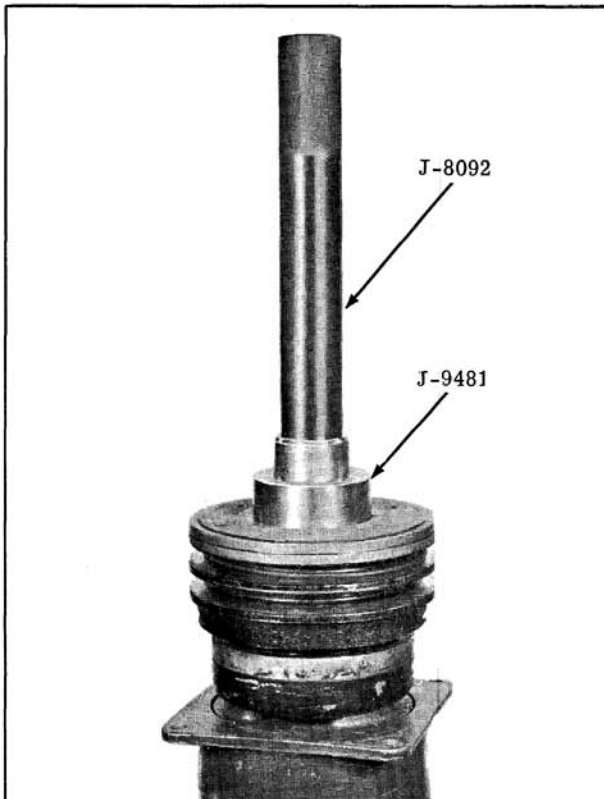

Fig. 14-90 Installing Pulley and Drive on Compressor
1. Install the pulley and bearing assembly on the end of the compressor, with Tool J-9481. (Fig. 14-90) The pulley should rotate freely.